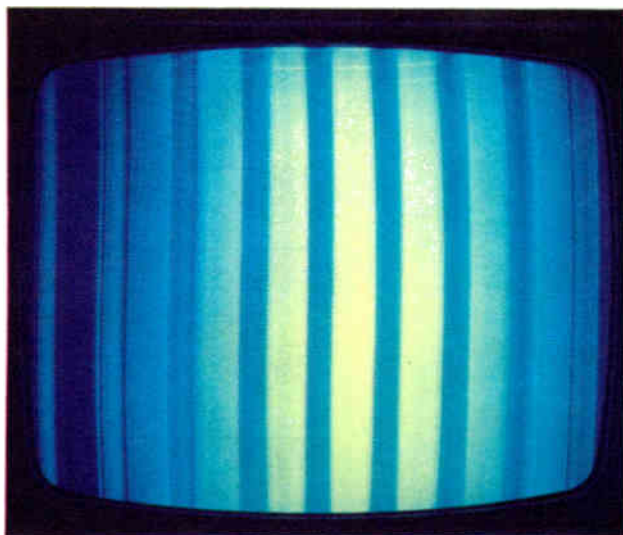

Fig. 7-15. Correct pattern with third and ninth bars nulled.
*Blue Bars*—Disconnect the 100K resistor from the blue grid and connect it to the green grid. The pattern should appear as shown in Fig. 7-15. Bars three and nine have the same brightness as the background.